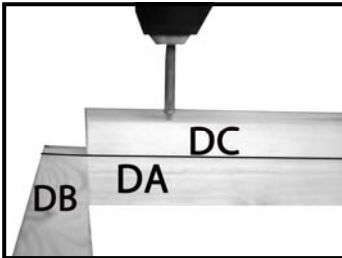

Fig B6
11. Fix to part DC to DA with 40mm screws (fig B6 & B7) important fix at both ends first ensuring that they stay flush then the screws in between again ensuring that parts DA & DC are flush as you go.